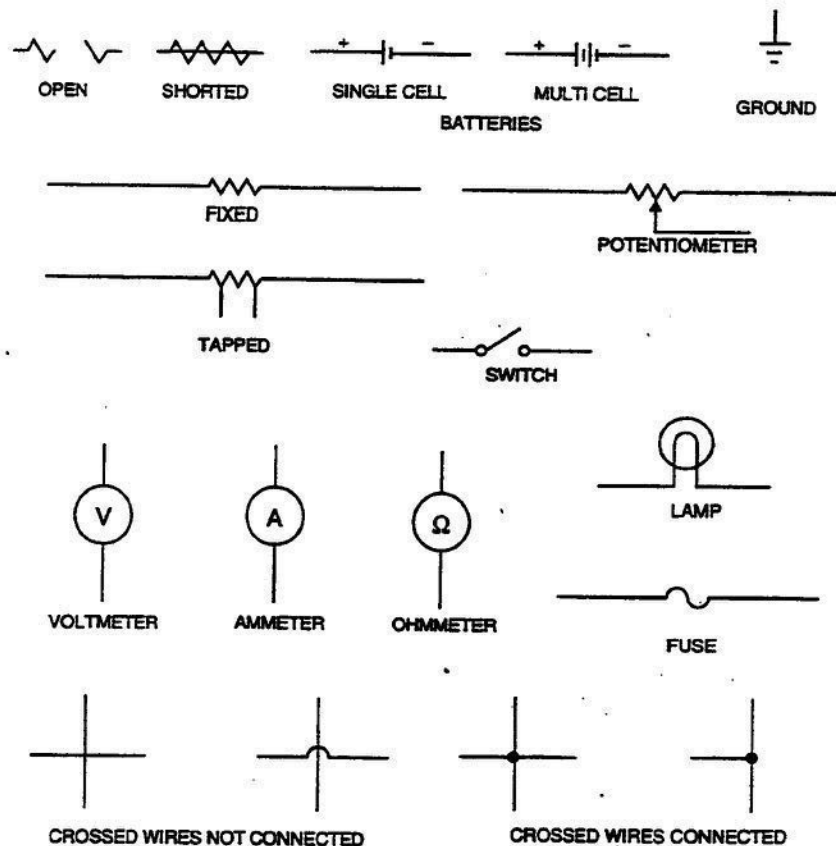

Figure 2-13. Basic electronic symbols.
Let us examine a few basic circuit *symbols*. Refer to the symbols in figure 2-13 as we describe each component.
The schematic symbols for these resistors are shown in figure 2-13. The first resistor is the most common and comes in a wide range of ohmic values. The rheostat is a type of variable resistor. It is usually wire wound and is available in only low-ohmic values. Another wire-wound device is the tapped resistor. Different amounts of opposition are sensed at its various taps. The potentiometer is either made of carbon or wire wound. This variable resistor is also available in a wide range of ohmic values.
**Battery.** A battery is a device that converts chemical energy to electrical energy. In the single and multicell batteries shown in figure 2-13, the short lines represent the negative terminal. The negative terminal of one cell is connected to the positive terminal of another cell, and so on.